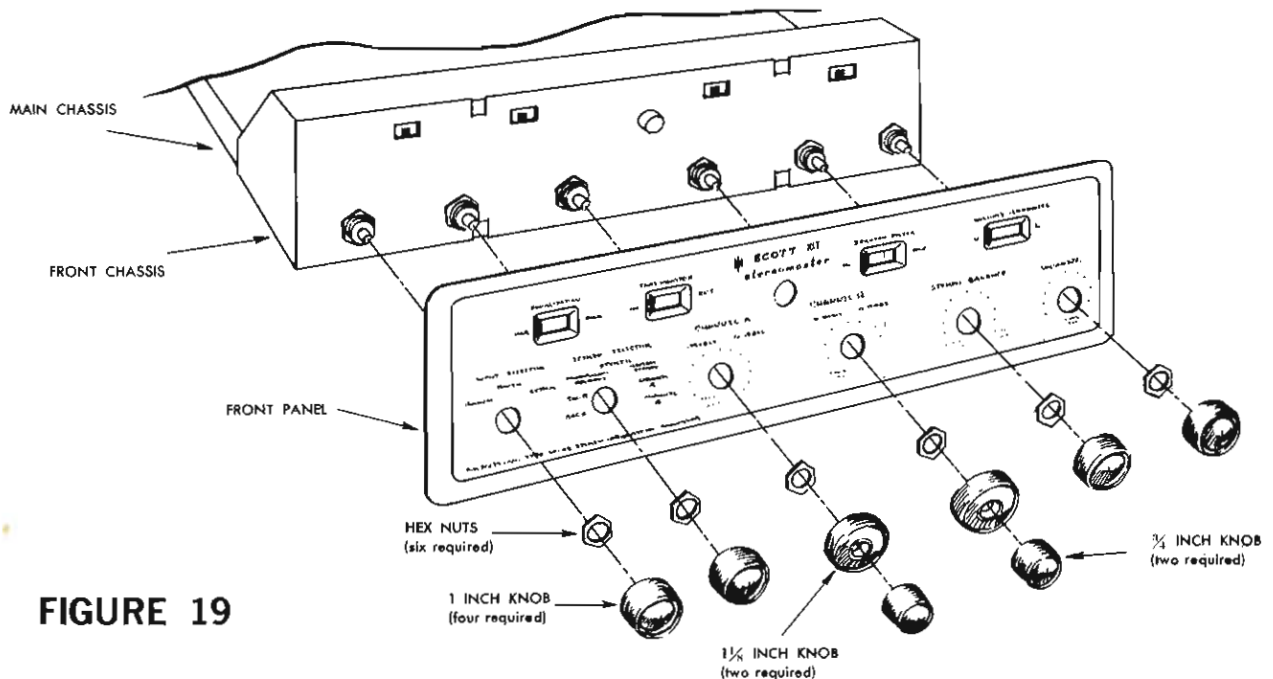

FIGURE 19
- A4-5. Mount the front panel and knobs as shown in fig. 19. Put the panel in place and thread on the nuts to hold the panel down. Be careful not to scratch the panel. Then put on the knobs